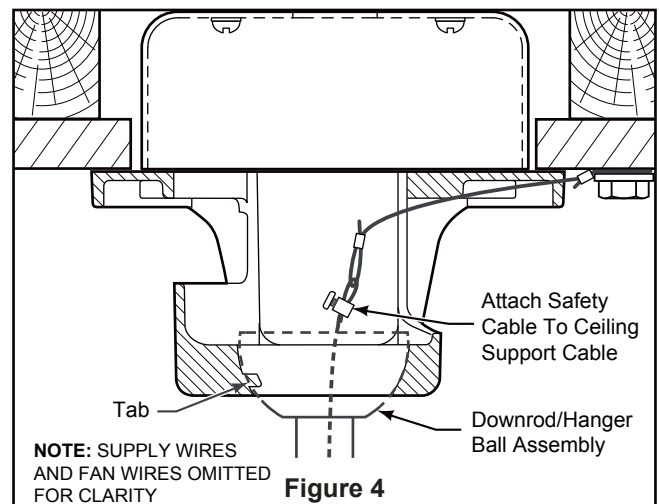

Figure 4
4. Carefully lift the fan and seat the downrod/hanger ball assembly onto the hanger bracket that was just attached to the outlet box. Be sure the groove in the ball is lined up with tab on the hanger bracket. (Figure 4)
5. Attach the safety cable to ceiling support cable. Slide cable clamp and washer onto safety cable (from fan). Place the end of cable through the loop of ceiling support cable. Pull as much cable through loop as possible. Feed end of cable into clamp hole and firmly tighten screw. (Figure 4)